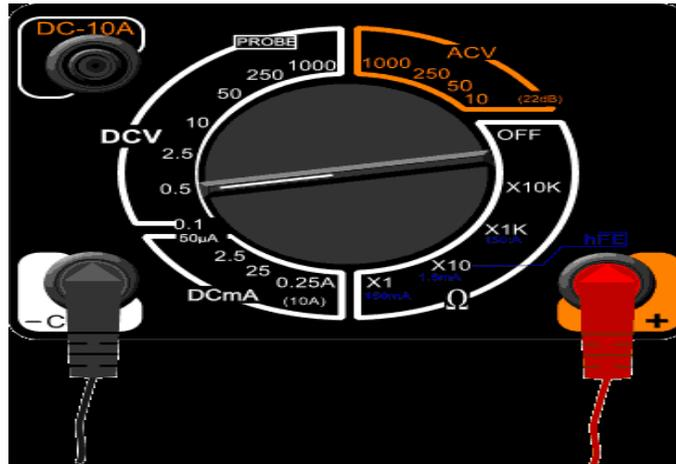

Figure 2.4: Selector Switch Position
- ✓ For instance, supposing you place the selector switch to 0.5 DVC as shown in Figure 2.4.